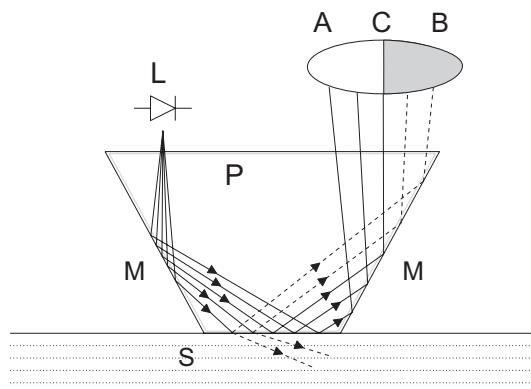

Figure 1.2 Refractometer principle
The K-Patents inline refractometer sensor determines the refractive index n_D of the process solution. It measures the critical angle of refraction using a yellow LED light source with the same wavelength (580 nm) as the sodium D line (hence n_D). Light from the light source (L) in Figure 1.2 is directed to the interface between the prism (P) and the process medium (S). Two of the prism surfaces (M) act as mirrors bending the light rays so that they meet the interface at different angles.